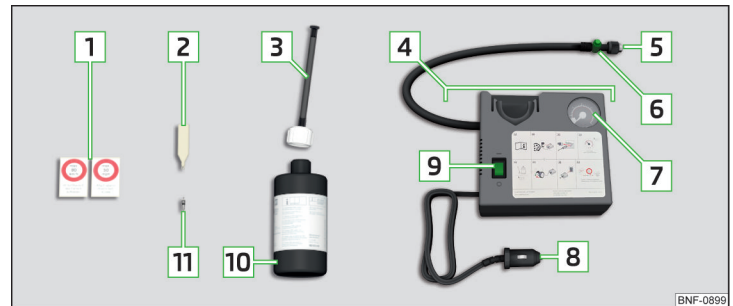

Fig. 335 Description of puncture repair kit
- › Insert the valve remover **2** » Fig. 335 on page 284 on the valve insert, so that the valve insert fits into the slot of the valve remover.
- › Screw the air compressor tyre inflation hose **5** » Fig. 335 on page 284 firmly onto the tyre valve.